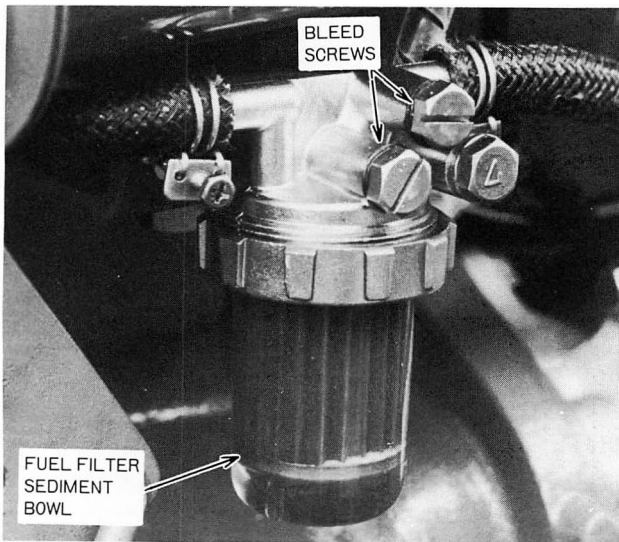

Figure 40 – Fuel Filter
1. Be sure there is adequate fuel in the fuel tank, close the fuel shut-off valve, Figure 5, then remove the fuel sediment bowl, Figure 40.
2. Remove the sediment bowl, Figure 40.
3. Open the bleed screws at the top of the fuel filter (Figure 40) and let the air bubbles escape from the screws. Then tighten bleed screws.